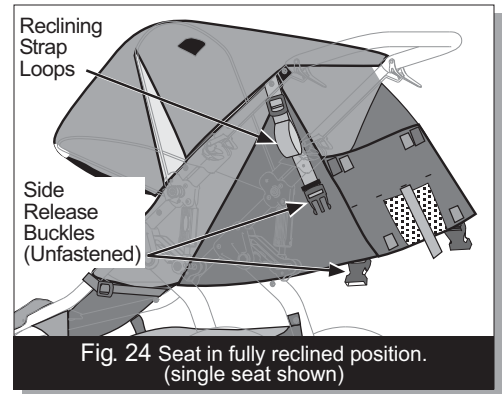

Fig. 24 Seat in fully reclined position. (single seat shown)
To fully recline seat, unfasten side release buckles at seat back. (Fig. 24)
**⚠ WARNING: When seat is fully reclined, (Fig. 24) backward tip-over is more likely, and may result in an accident or injury, as seat and/or passenger may contact ground before handlebar.**